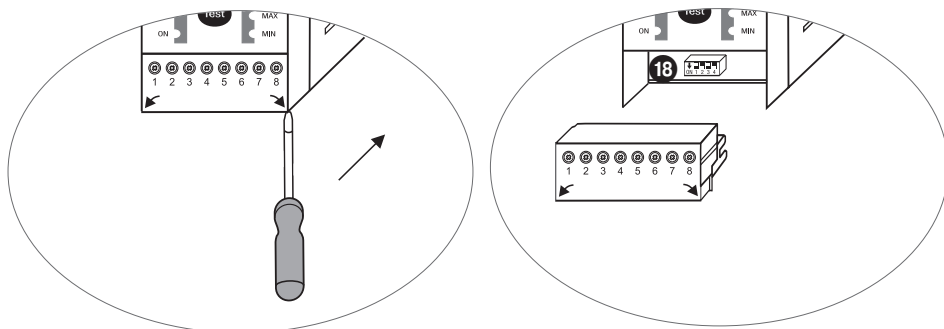

Fig. 9
- Remove **lower** terminal strip. **Fig. 9**
- Remove the lower and upper terminal strips. **Fig. 9.**